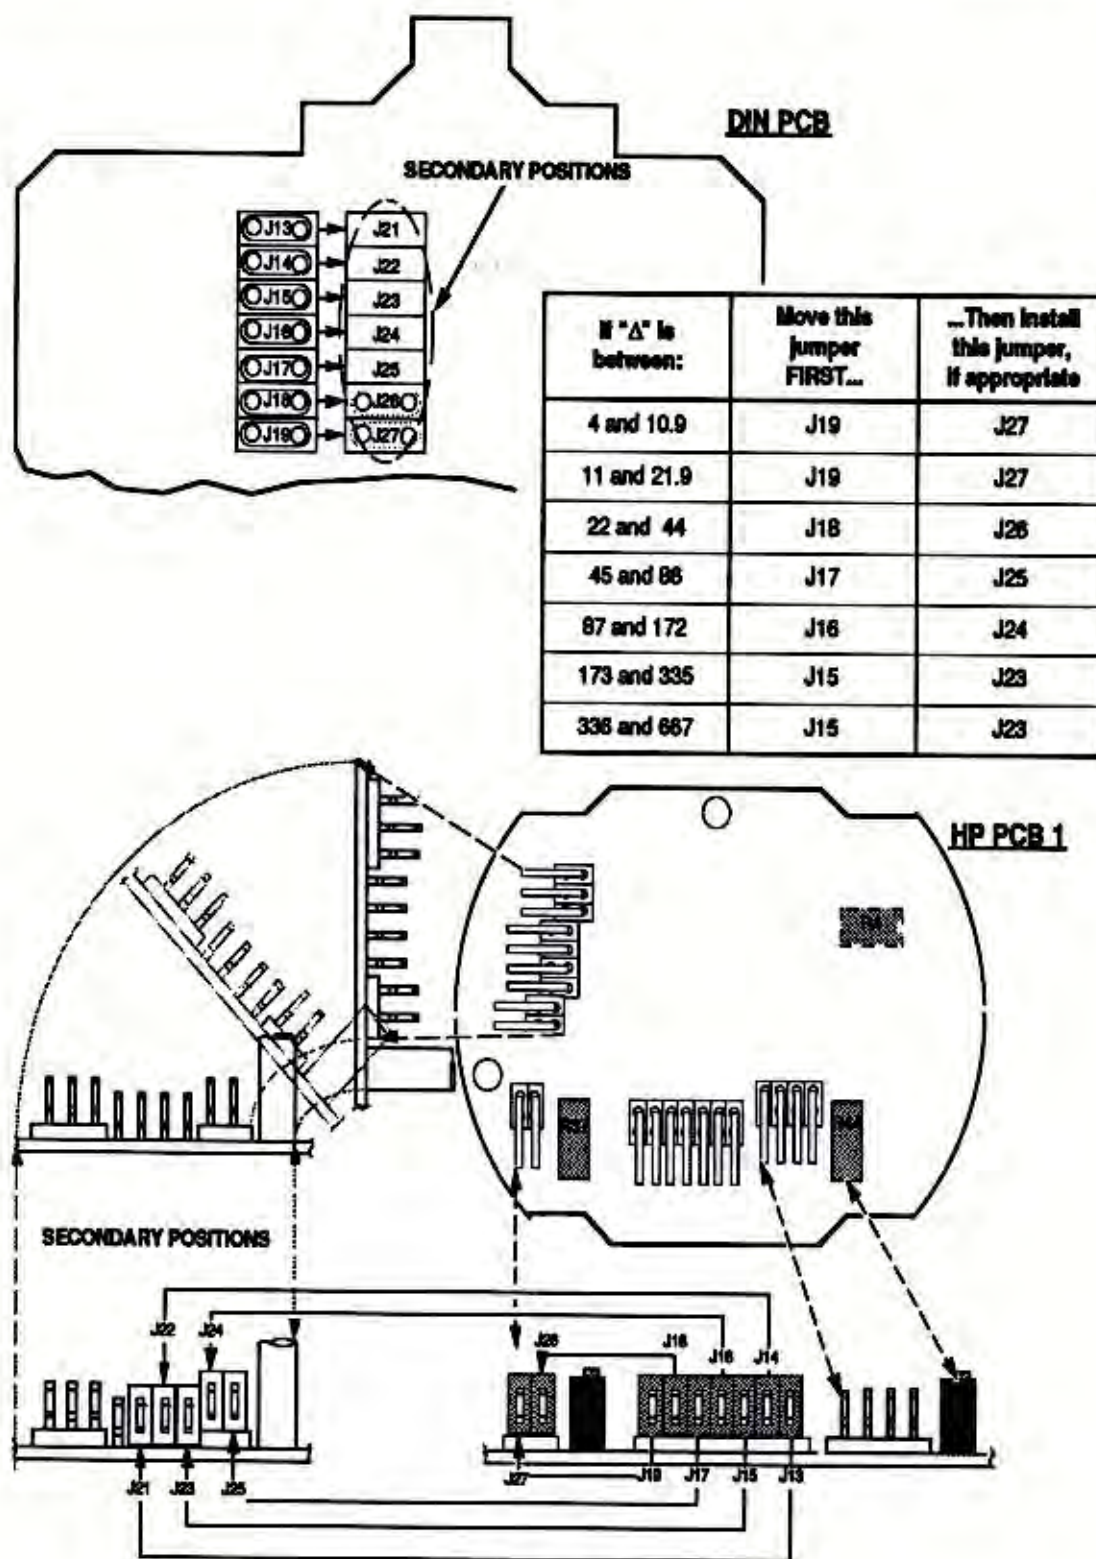

Figure 8. Moving the EZ Jumpers
Figure 8 illustrates the technique for positioning EZ jumpers on both the HP- and DIN-style EP-RBX. The instructions are comprised of steps 5 through 9.
- a. Remove the jumper with the next lower number in figure 8, and again observe output.
- b. If output is still NOT CORRECT, install *that* jumper in its secondary position, according to figure 8.